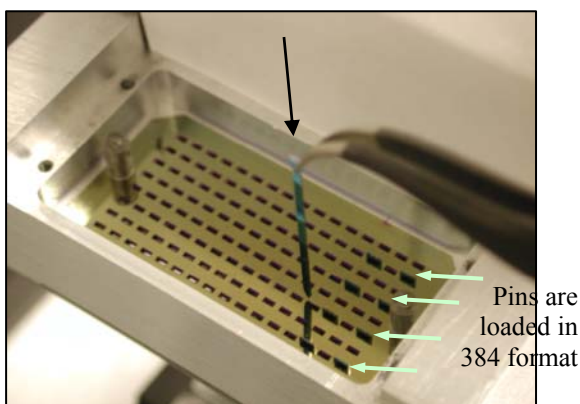
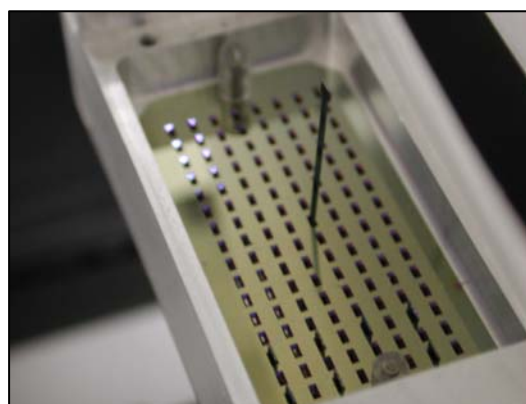
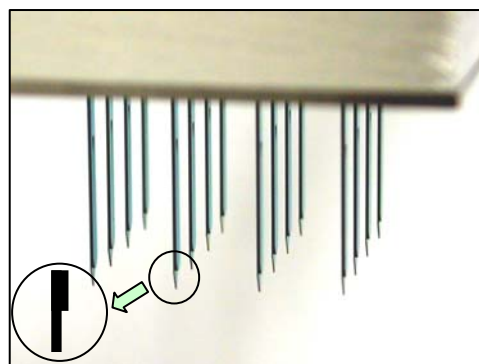

Fig. 14 Manual loading of the pins directly into the collimator holes.
Fig. 15 A misloaded pin.
Fig. 16 Printhead loaded with 16 pins with the thinned region all facing in the same direction.
4.2 Manual loading: Hold the pins with the tweezers such that they are as plumb and vertical (90° to the surface of the collimator) as possible and gently drop them into the holes present in the collimator as shown in Fig. 14. The pins drop right through the holes and until stopping to rest on the pin head. In certain cases when the pins are not loaded vertically (< 88-89°), the pins may not go through the bottom collimator and stand on top of the bottom collimator as shown in Fig. 15. Do not force the pin to go through the bottom collimator as it may damage the pin tip. The pin should be gently picked up with the tweezers and should be loaded again until it goes through both the collimators. *The thinned region of all pins in the printhead must face the same side as shown in Fig. 16.*